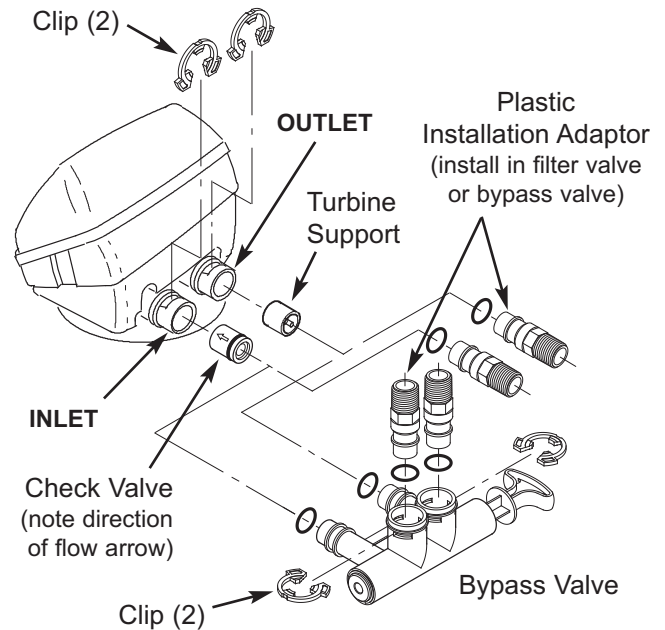

FIG. 6
- Be sure the check valve is in place in the valve inlet, with the flow arrow pointed inward, as shown in Figure 6.